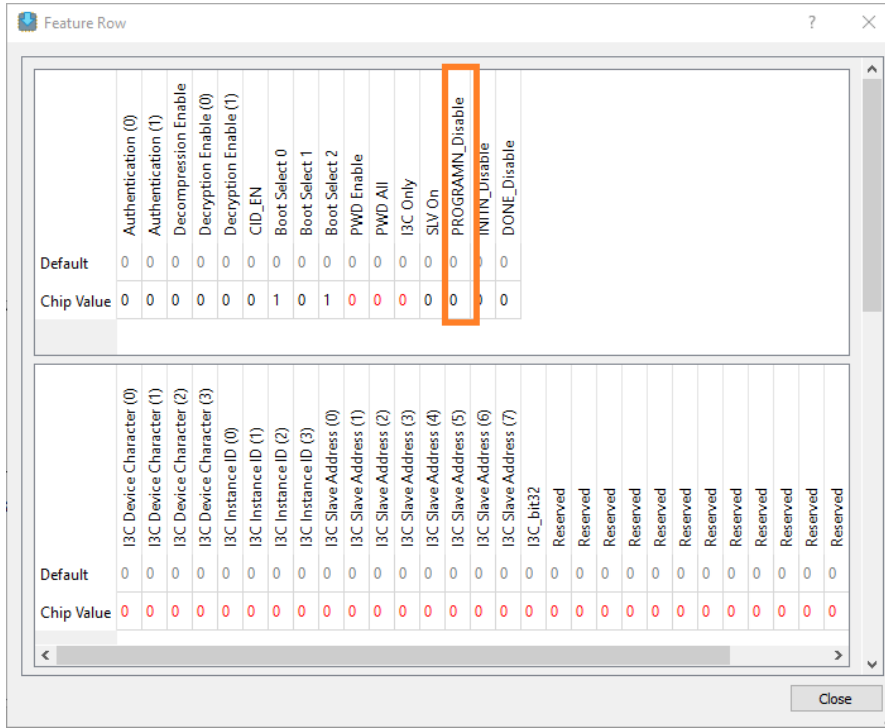

Figure 2.8. Current Bit Value
3. Select the feature row bit to toggle the value as shown in Figure 2.8. User can double-check if the feature row has been updated using the *Read Feature Row* operation.